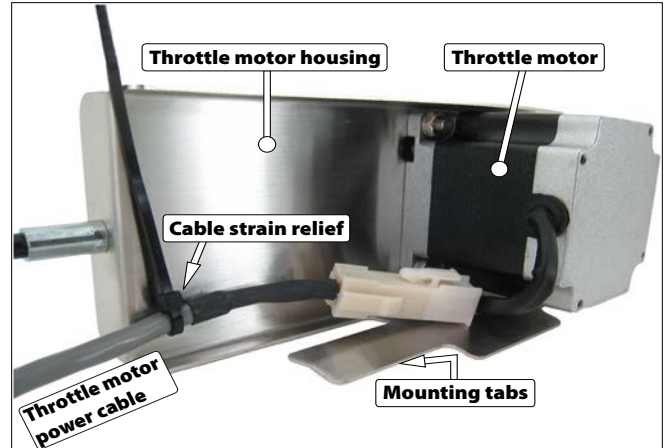

Figure 5-1: Throttle motor housing (back) showing throttle motor power cable connection and strain relief. Actual connectors may be different than shown.
1. Insert the throttle motor power cable through the zip tie loop on the housing. Connect the throttle motor power cable to the throttle motor by mating the two connectors. **IMPORTANT:** Make sure the connector is fully latched to avoid coming loose with vibration (see figure 5-1).
2. Tighten the zip tie around throttle motor power cable to create cable strain relief (see figure 5-1).